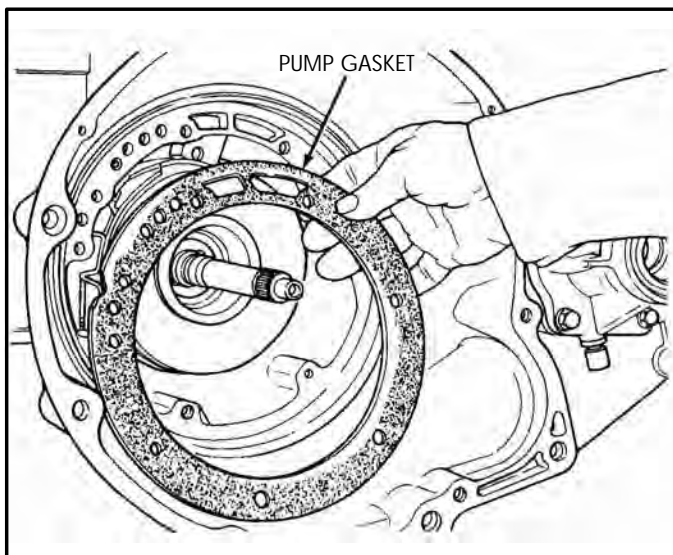

Figure 42
21. Remove and discard oil pump to case gasket, as shown in Figure 42.